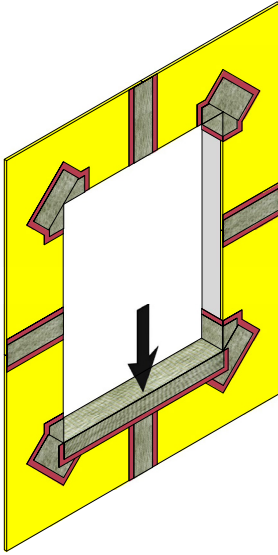

Figure 25
6. Cut WS Flash to desired size. Remove release film immediately before application. Using a roller firmly press the WS Flash onto the surface, keeping the membrane smooth. Begin by treating the sill first, the jambs second, followed by the head. (See Figures 25,26,27)